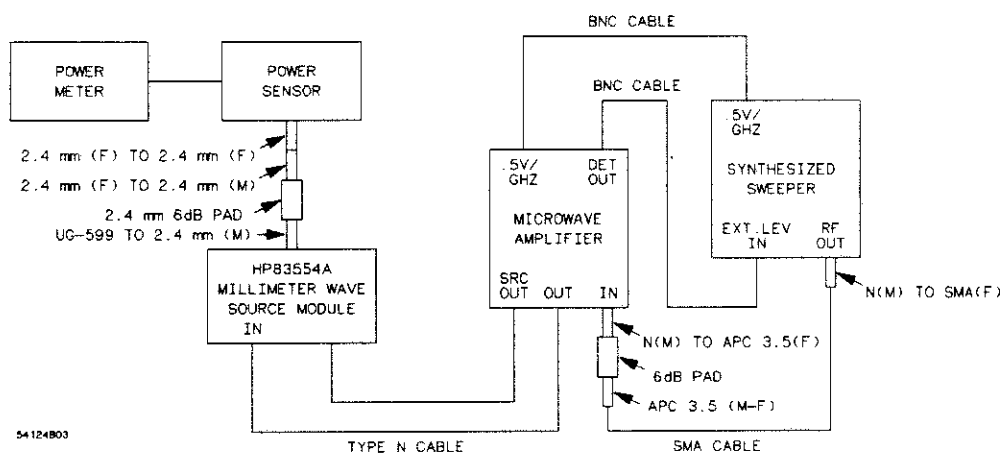

Figure 3-3. Bandwidth Test Equipment Connection C
20. Connect the equipment as shown in figure 3-3. Do not turn on the microwave amplifier until after the millimeter wave source module is connected.
40. Connect the equipment as shown in figure 3-3. Turn the sweeper power on.